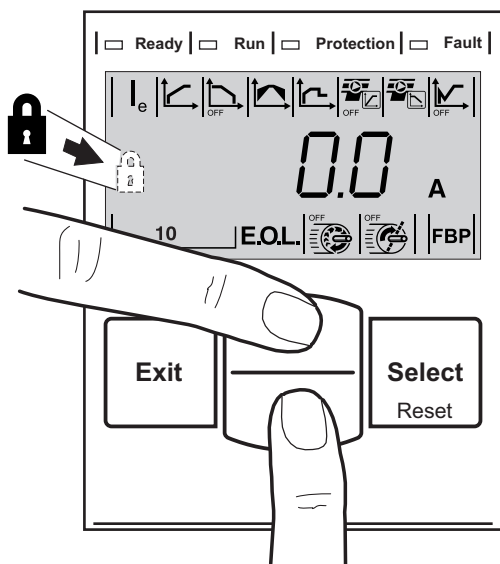

Figure 6.3: Locking/unlocking the keypad
3. Press both Navigation keys 4 seconds to lock the keypad, and protect all parameter settings from unintentional change from the keypad. See figure 6.3.